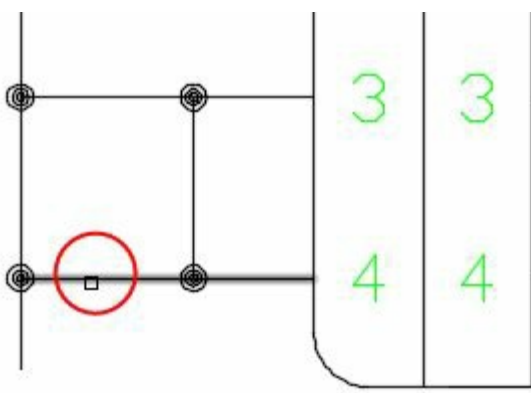

Figure-39. Wire to be trimmed
- Click on the wire as shown in Figure-39. Press ENTER to exit the **Trim Wire** tool.